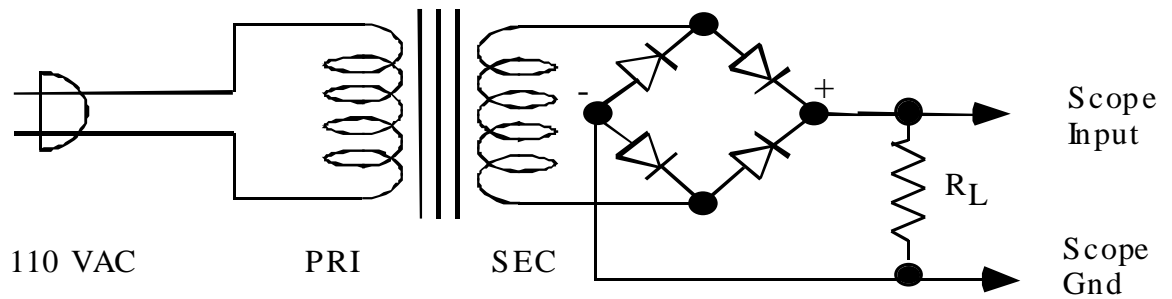
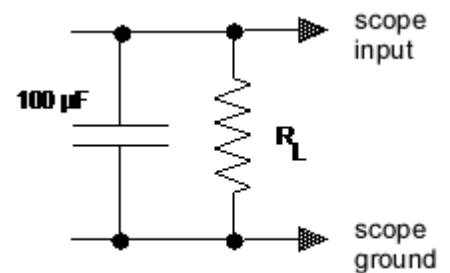

Figure 3.3. Full-wave rectifier bridge circuit. The input is 110 VAC line voltage.
Figure 3-4 Filter Capacitor
- * – Measure the output waveform of the full-wave *bridge circuit* in Figure 3-3. Do not attempt to measure the input waveform. Use a 1 k Ω load resistor.
* Starting with the full wave rectifier circuits in Figure 3-3, add a capacitor $C = 100 \mu\text{F}$ across the load resistor as shown in Figure 3-4. Note that capacitors of such a large value are polarized: one of the capacitor's two leads is marked – or +.